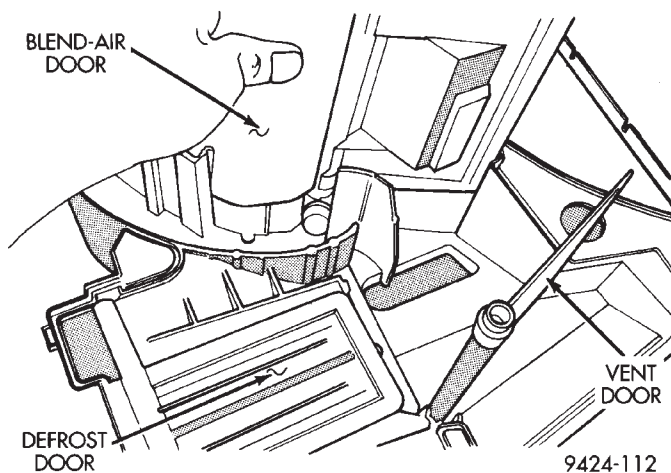

Fig. 74 Blend-Air Door
- (20) Remove blend air door from lower housing (Fig. 74).